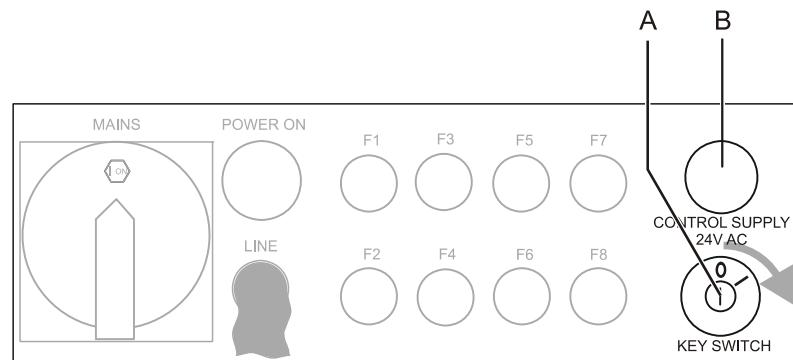

Figure 151: Activating the control voltage
3. Insert the key into the key switch (see Figure 151, A) and turn clockwise to the I setting to activate the laser controller.
- The CONTROL SUPPLY lamp (B) lights and the controller software boots. During this period the laser device performs a self test which is indicated by the flashing “self test” message on the hand-held keypad display.